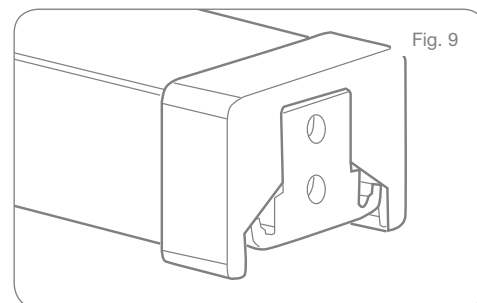

Fig. 9
Test fit rail panel. Once proper fit is ensured, press bottom bracket covers (C) onto the ends of your bottom rail (Fig. 9), and set panel in place on brackets.